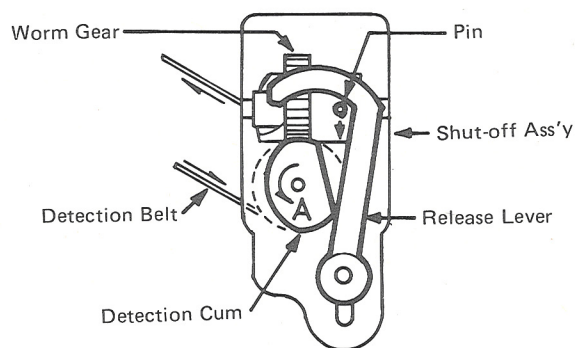

Fig. 7
The gear is always turning while the motor is rotating. In the playback, recording, and F.F. mode, the take-up disk is turning to the (A) direction as shown in Fig. 5 and the rotation is transmitted to the detection pulley by way of the detection belt. The detection cam that is swung to the (A) direction as shown in Fig. 7 by the friction of the felt which is contacted with the detection pulley pushes the release lever outward. In the rewinding mode, the take-up disk turns to the (B) direction as shown in Fig. 5. The detection cam swings to the (B) direction as shown in Fig. 8 and the release lever is pressed outward. The release lever does not engage with the pin which is projected from the worm gear, while the tape is running, so that the auto stop mechanism does not function.